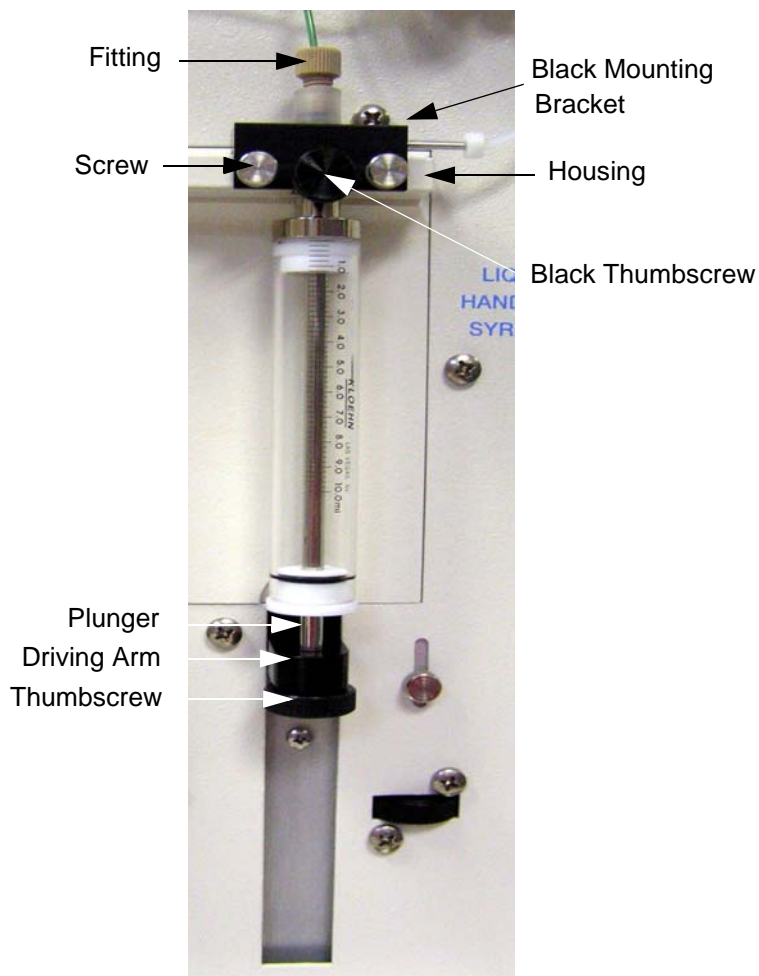

Figure 5-2. Syringe Screws and Mounting Bracket
1. Remove the two screws from the mounting bracket that secure the syringe to the housing (see Figure 5-2).